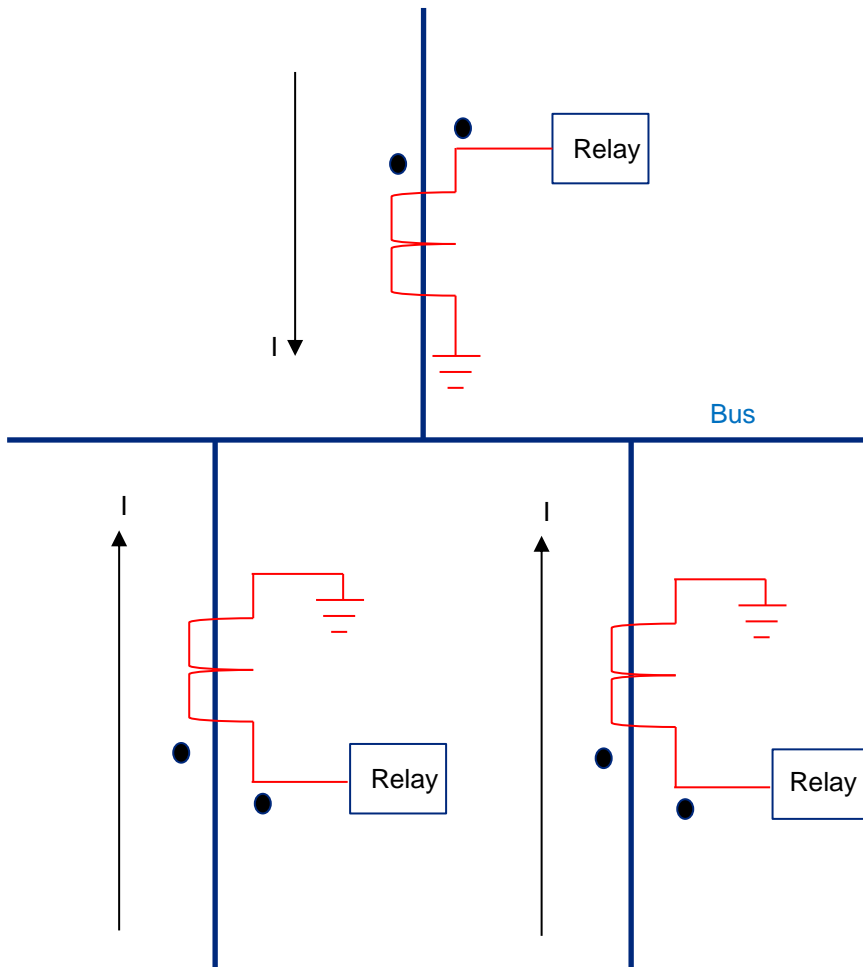
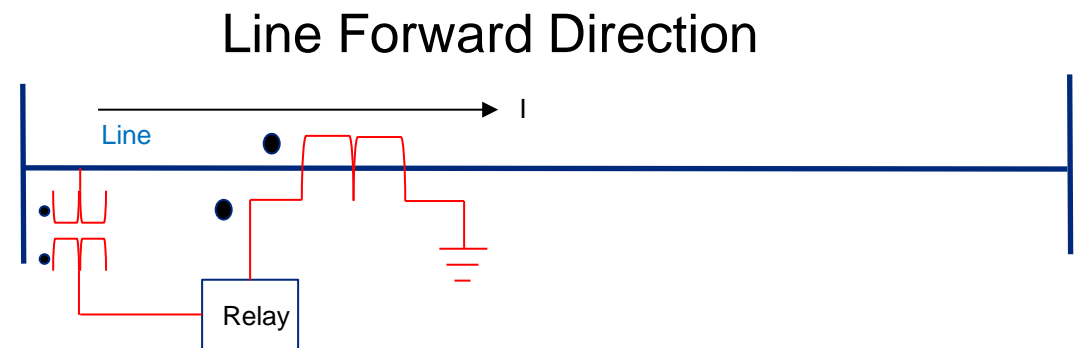
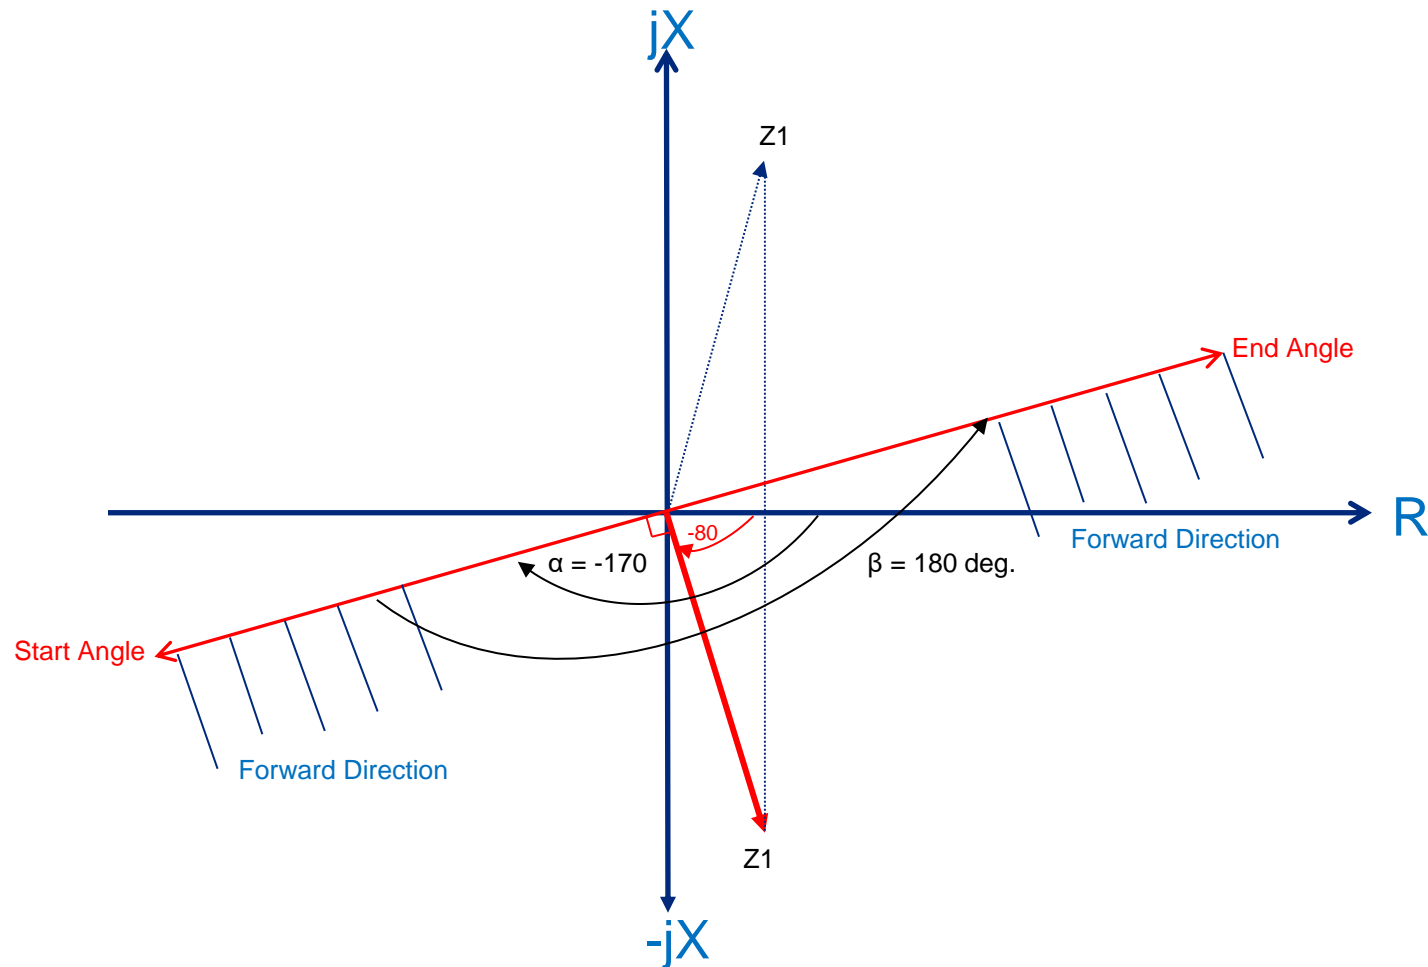

Figure 3
Figure 4
Figure 5. Directional Overcurrent Control in L-PRO
- For bus protection, the relay will normally be connected as in Figure 3 with CT connection defined for current flowing into the bus, rather than way from the bus. This opposes the expected connection of the line protection, as shown in Figure 4 (see *next slide*)
- So if the relay current connections are similar to Figure 4 and if the user is setting the Directional Overcurrent element to declare Line Faults as forward faults (to match the directional convention of the line protection relay), then the current phasor should be considered in  $-jX$  plane. In other words, for a typical line angle of  $80^\circ$  ( $Z1=V1/I1$ ), we need to mirror  $Z1$  in the R-axis to get the forward direction for Directional Overcurrent element in L-PRO, as shown in Figure 5 (*next slide*).